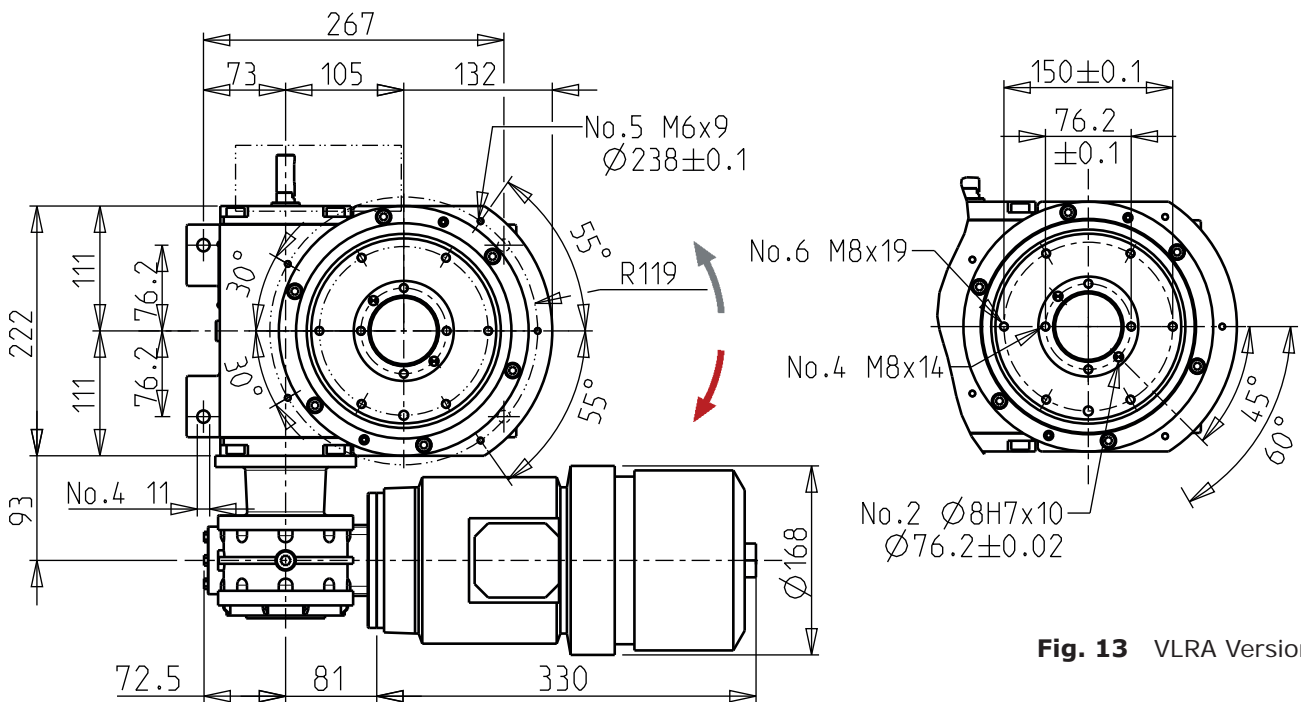

Fig. 13 VLRA Version.
- The 6 holes M8x19 on the output plate are in the position shown in Fig. 13 and 14 when the table is in the dwell period at one of the stations.